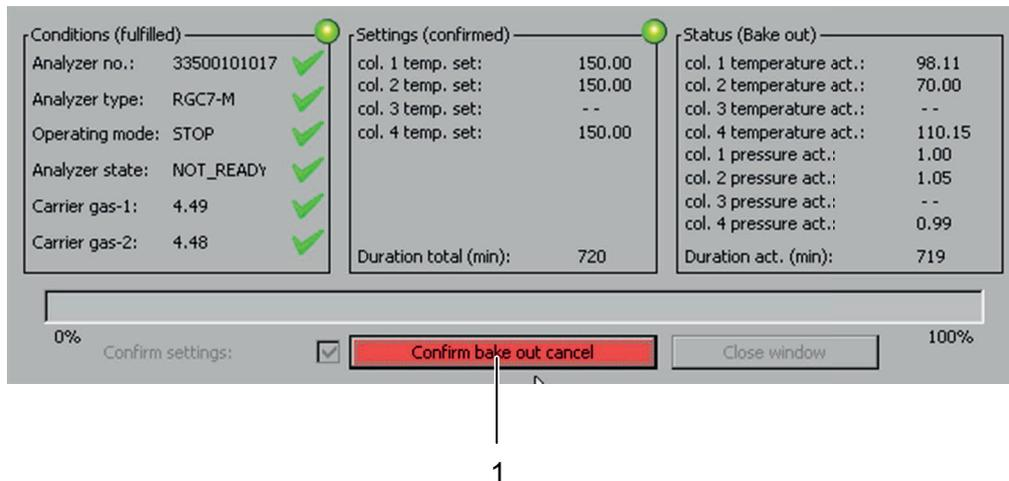

Fig. 40: Menu Bake-out – Confirm cancel bake-out procedure
- ➔ The cancellation of the bake-out procedure is initiated, but not executed in full. The button changes to **Confirm cancel bake-out procedure** (cf. fig. 40).
- ▶ To fully cancel the button bake-out procedure, press the button **Confirm cancel bake-out procedure** (fig. 40, no. 1).